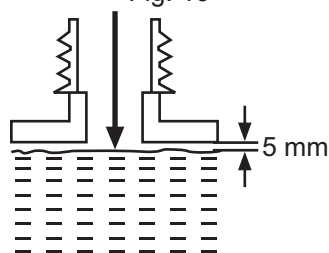

Fig. 17
3. Fill suitable lubricant into the tank using an oil funnel fitted with a filter to avoid debris entering the tank. Do not overfill and leave approximately 5 mm of space between the top of the oil and the inside edge of the tank to allow for expansion (Fig. 17).